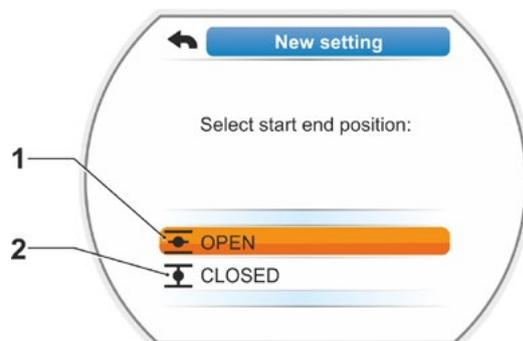

Fig. 5: End position selection
The display changes to the query which end position CLOSED or OPEN is to be set first (fig. 5).
11. Select end position to be set first (in our example end position OPEN) (fig. 5, item 1) and confirm.